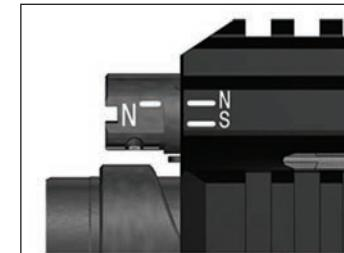

Fig. 14 –Gas block adjustment set to Normal (N)
- Intended for use without a suppressor (Fig. 14)